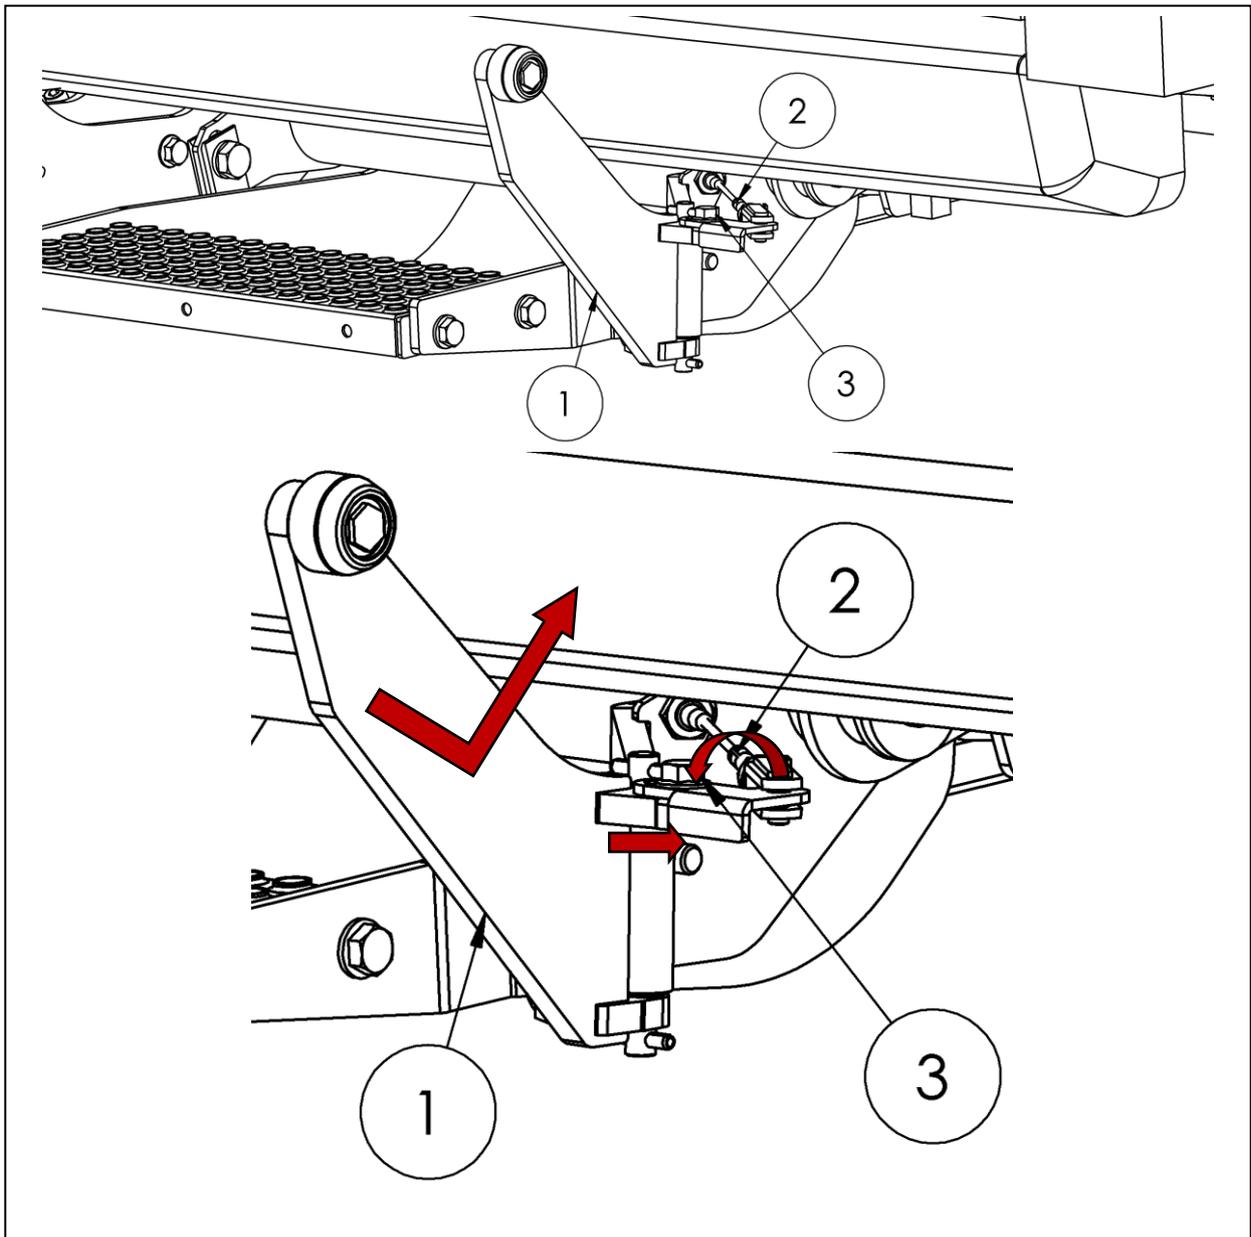

Fig. 87
Adjust the support arm (1) so that it can be pulled as close to the vehicle as desired when the platform is closed. The adjustment is made outside at the Bowden cable (2) and, if applicable, also at the screw on the lever (3). While making the adjustment, release the Bowden cable (2) and open the platform (see Fig. 87).